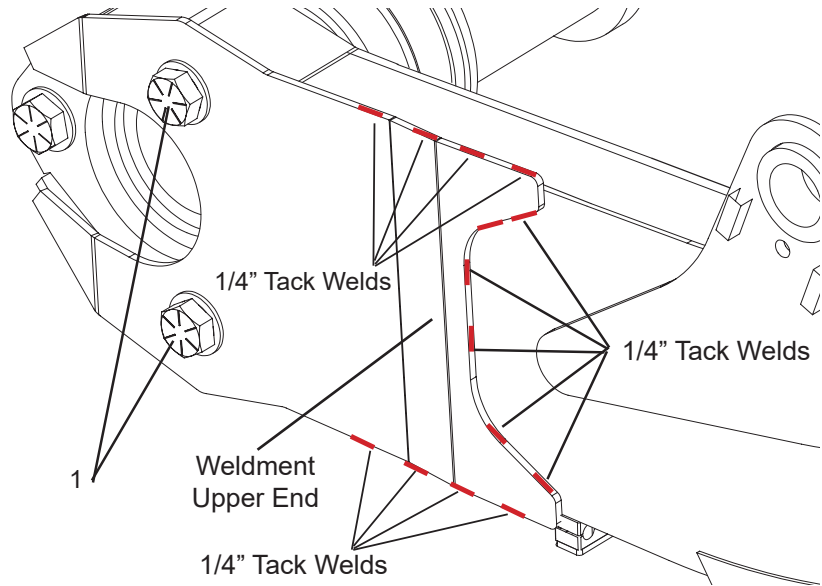

Figure 5
9. Using two each of the bolts, washers, and nuts from the Arm Base Reinforcement Kit, install the weldment to the arm (Figure 5, Item 1). Do not tighten or torque the bolts and nuts yet.
10. Clamp the weldment upper end tight to the arm and tack weld it in place with 1/4" tack welds (Figure 5).